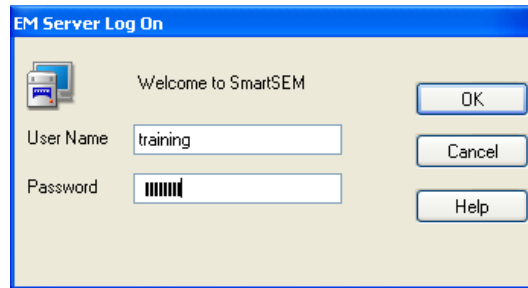

Figure 6 Electron microscope (EM) server login window
- Another pop-up window will prompt the user to login to the electron microscope (EM) server as shown in Fig. 6. The username and password for the EM server is 'training'.